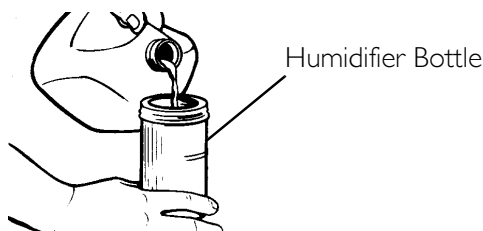
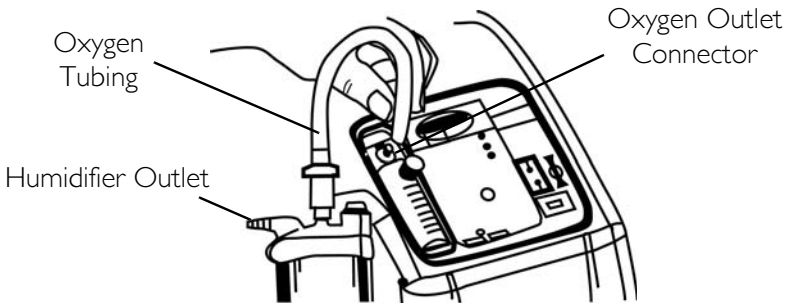

FIGURE 5.1 Filling the Humidifier
FIGURE 5.4 Attaching the Oxygen Tubing
NOTE: For this procedure, refer to FIGURE 5.1 - FIGURE 5.4.
6. Attach oxygen tubing from the humidifier bottle to oxygen outlet connector on the oxygen concentrator (FIGURE 5.4).
7. Attach the cannula/patient supply tubing to the humidifier bottle outlet (FIGURE 5.4).